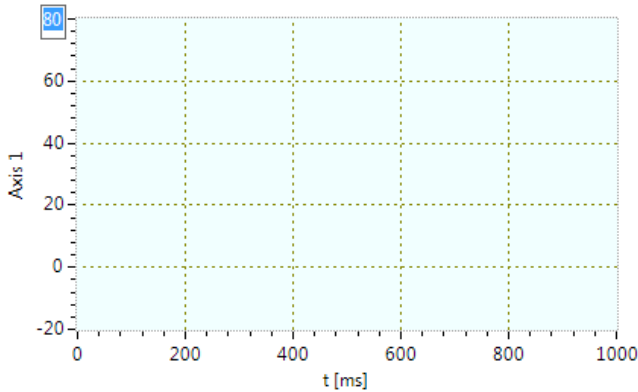

Figure 9: Changing the Y axis range
- The min/max range of an axis can also be changed by clicking on the min/max axis label (Figure 9).
4. To define the pre-trigger and the post-trigger duration set **Axes > TimeAxis > Range > Minimum/Maximum** in the **Plot** tab or click on the min/max label of the time axis (Figure 9).